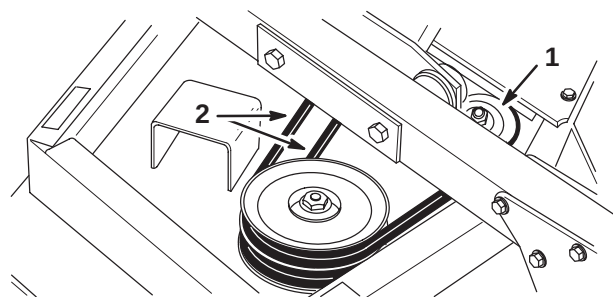

Figure 6
1. Remove deck covers and relieve belt tension on all belts (Fig. 6).